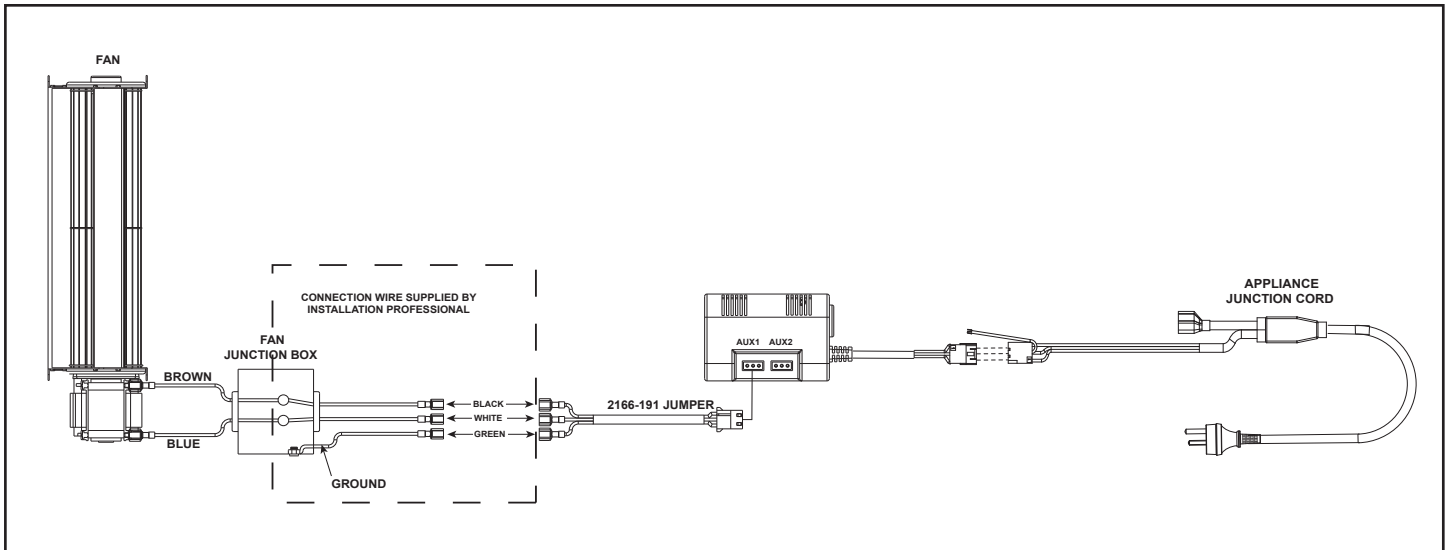

Figure 5.10
10. 240 VAC will be provided by AUX300CE module. Connect 2166-191 jumper to AUX1 of AUX300CE module. Using wire connectors, secure wires to 2166-191 jumper and run to fan junction box. Inside of fan junction box, secure wires to fan wires using wire connectors and screw the ground wire to the fan junction box. See figure 5.10.